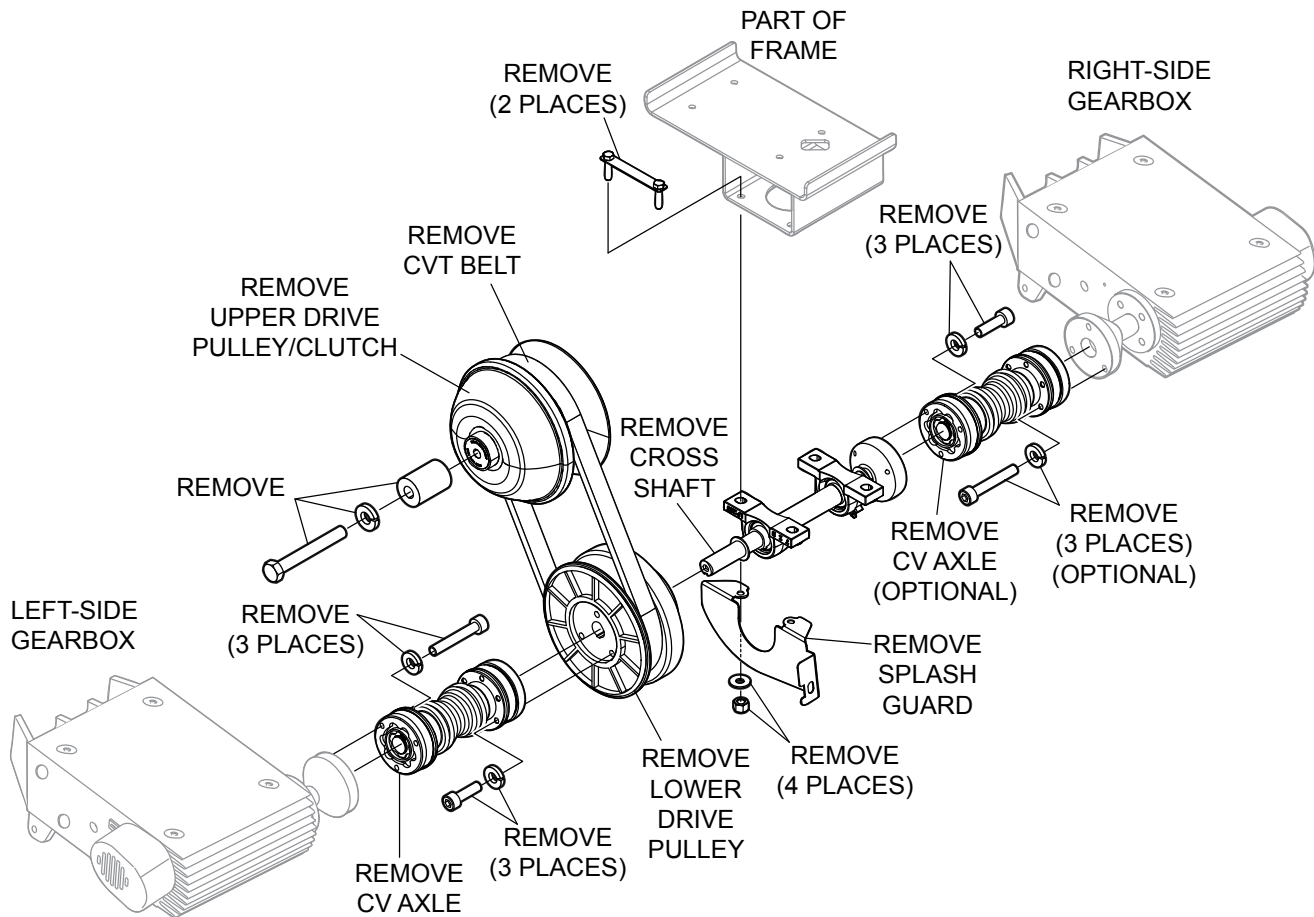

Figure 7. Drive Assembly Removal
Refer to Figure 7.
1. Walk belt off of upper CVT pulley and lower pulley. Discard belt. See Figure 7.
See Figure 7.